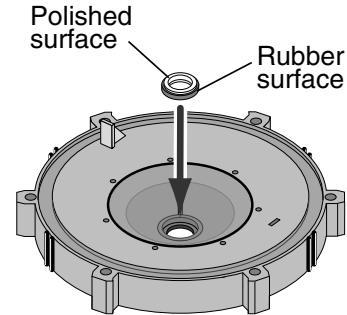

Figure 7
1. Ceramic seat must be clean and free of dirt, grease, dust, etc. Wet outer edge with small amount of liquid detergent; press ceramic seat into seal plate cavity firmly and squarely with finger pressure (Figure 7).